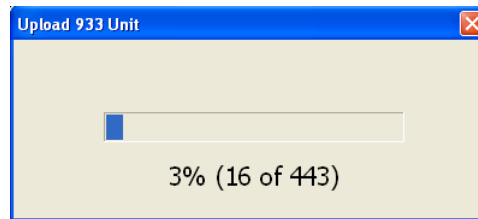

Figure B.3: Uploader Progress Window
- Click the Upload button (blue with an UP arrow) and the file will transfer to the 933A. The uploader will start by erasing flash in the 933A, and indicated by the progress screen. After flash has been erased, the program should indicate the progress of the upload with a progress bar as seen in Figure B.3.